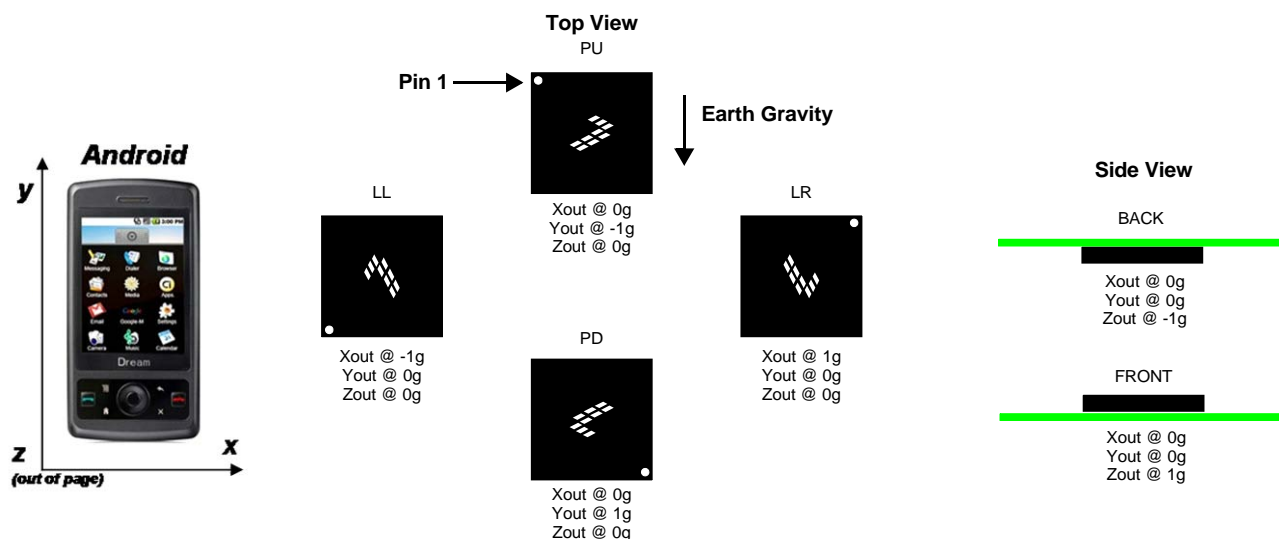

Figure 2. Orientation Definition of MMA8452Q
The 3-axis acceleration values are read from the accelerometer sensor, assuming that the sensor's 3-axis direction complies with the system coordinate. However in an actual product, different sensor chips could be used, or the mounting directions could be different, so that the data direction differs. Figure 2 shows the orientation definition of Freescale's MMA8452Q 3-axis accelerometer.
From Figure 2, we can see that the chip must be mounted with pin 1 at right-down position (PD), and mounted on the front of the PCB, in order to align with the default position of the Android Coordinate System. By doing this, the user ensures that the data direction complies with the system's coordinate definition. In any other cases, the data will not comply with the system definition and the direction of the data needs to be changed. In some cases, the X and Y-axis must be swapped or both direction changing and X-Y swapping are needed.